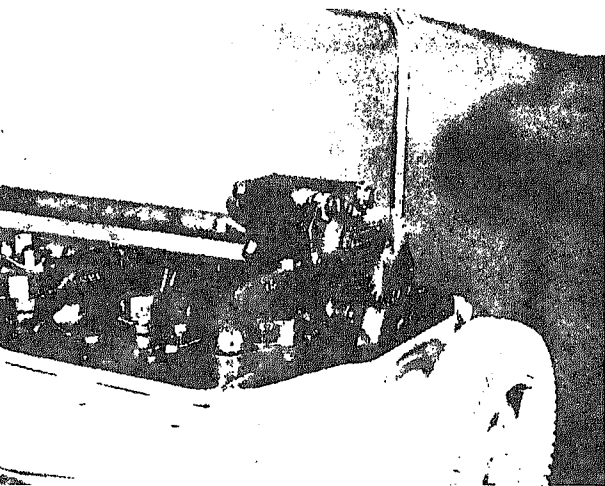

Fig. 0-43. Removing oil pump capscrews
1. Remove capscrews and lockplates securing oil pump, Fig. 0-43, and suction tube strap to block.